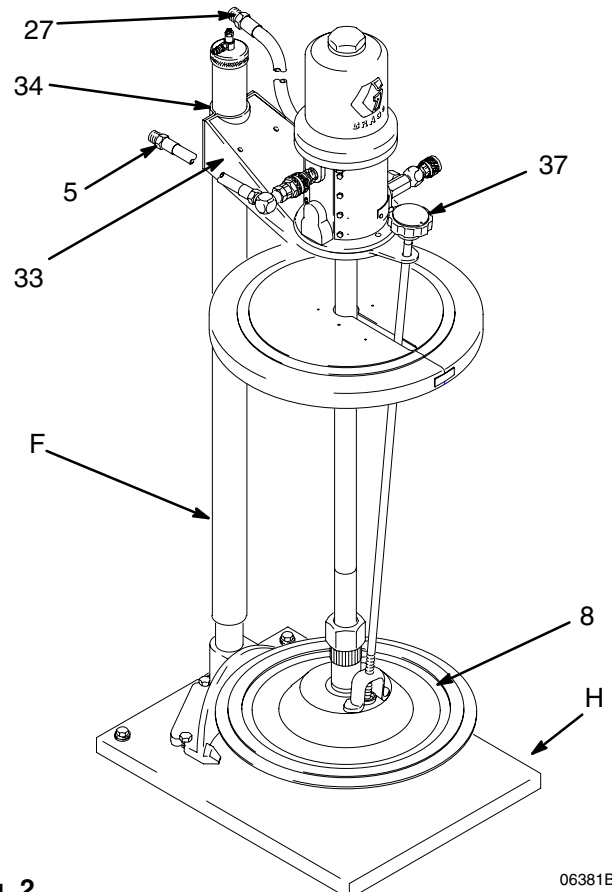

Fig. 2
Assemble the Pump to the Elevator (See Fig. 2)
1. Open the vent inductor plate (8) by turning the knob (37) counterclockwise. See Fig. 2.